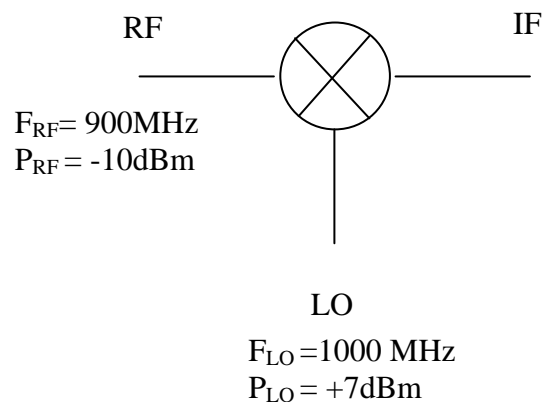

Figure 1: RF Mixer
3. Set the power level on the VNA to 0dBm. This is the power at the test port, which will be reduced by the loss of the input cable assembly before entering the RF port of the mixer (R port from Figure 1).